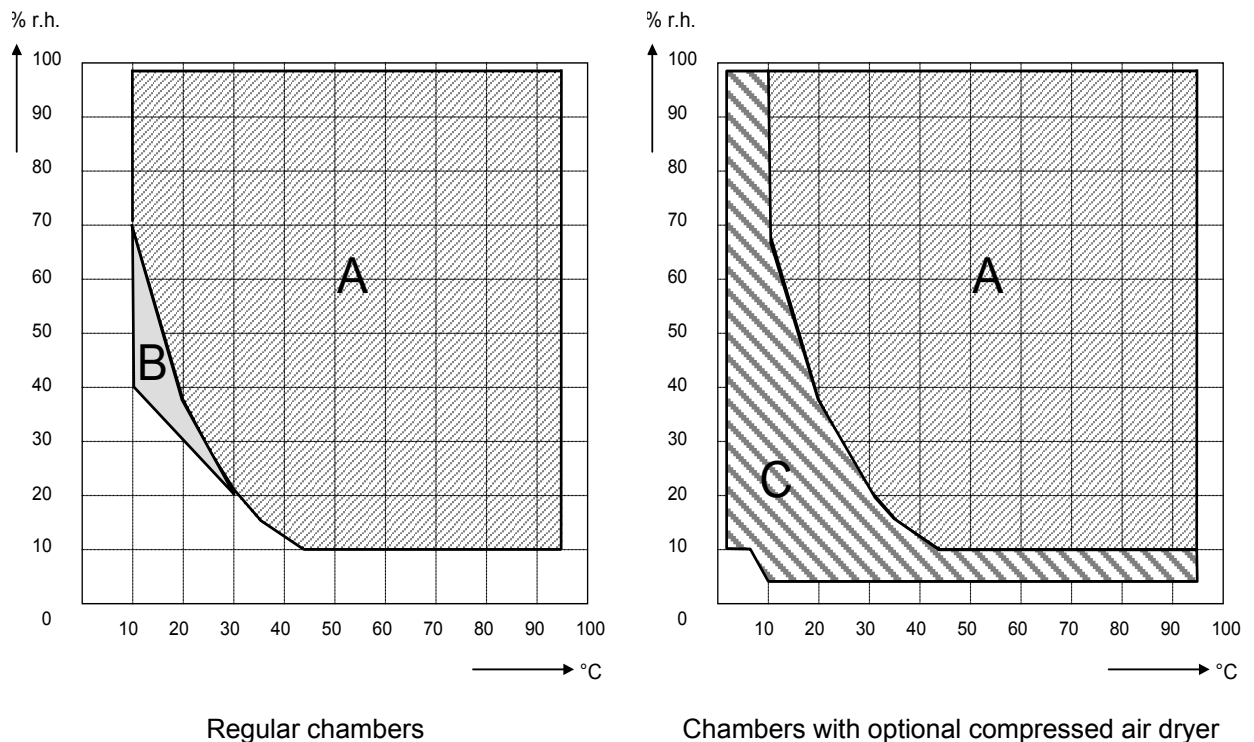

Figure 19: Temperature-humidity diagrams MKF / MKFT
The chamber is equipped with a capacitive humidity sensor. This results in a regulatory accuracy of up to  $\pm 2.5$  % r.h. of the set point. The temperature-humidity diagrams (Figure 19) show the possible working range for humidity.
When switch Humidity ON / OFF (4) (located on the lateral control panel) is in position ON, the chamber dehumidifies as needed in order to reach the entered humidity set-point inside the Control range of temperature and relative humidity (Figure 19).
With temperature set-points outside the control range (hatched area in Figure 19), humidification and dehumidification are automatically turned off. If the humidity system is turned off while there are descending temperature curves, then operation of the refrigeration system may cause dehumidification of the charging material.
With humidity set-points outside the control range (hatched area in Figure 19), or with entry of set-point 0 % r.H., the humidification and dehumidification system is turned off even if the humidity switch is in position ON.